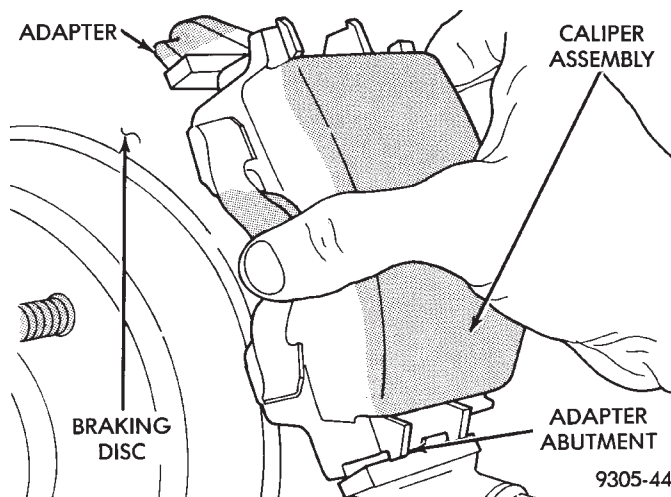

Fig. 10 Installing Caliper Assembly On Adapter And Rotor
(7) Carefully lower caliper and brake shoe assemblies over braking disc (rotor) reversing the required removal procedure (Fig. 10). Make sure that caliper guide pin bolts, bushings and sleeves are clear of the adapter bosses.